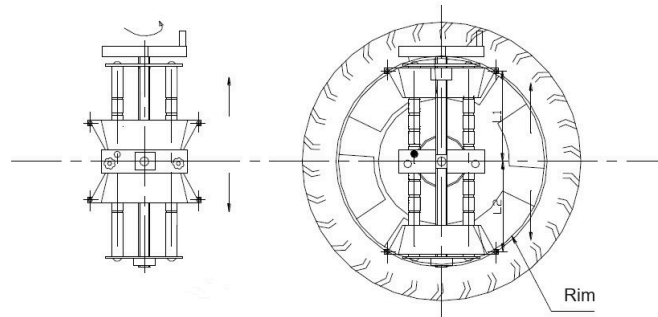

Figure 3.2-1 Fitting the clamp
- 1) Turn the hand wheel to open the claws to the diameter of the rim. The fitting direction of the clamp is shown in figure 3.2-1;